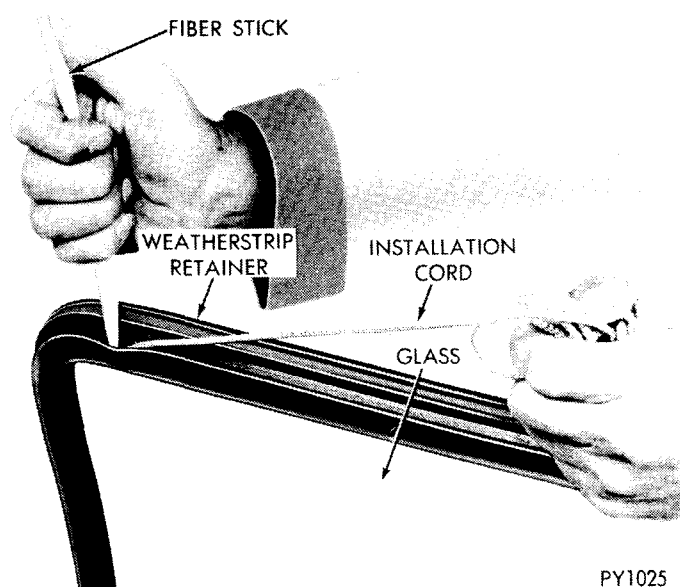

Fig. 3—Cord to Weatherstrip
- (1) Install cord in weatherstrip retainer (Fig. 3).
- (2) Install glass and weatherstrip assembly to door glass opening.
- (3) Install the assembly to the door frame by using an installation cord.
- (4) Clean glass.